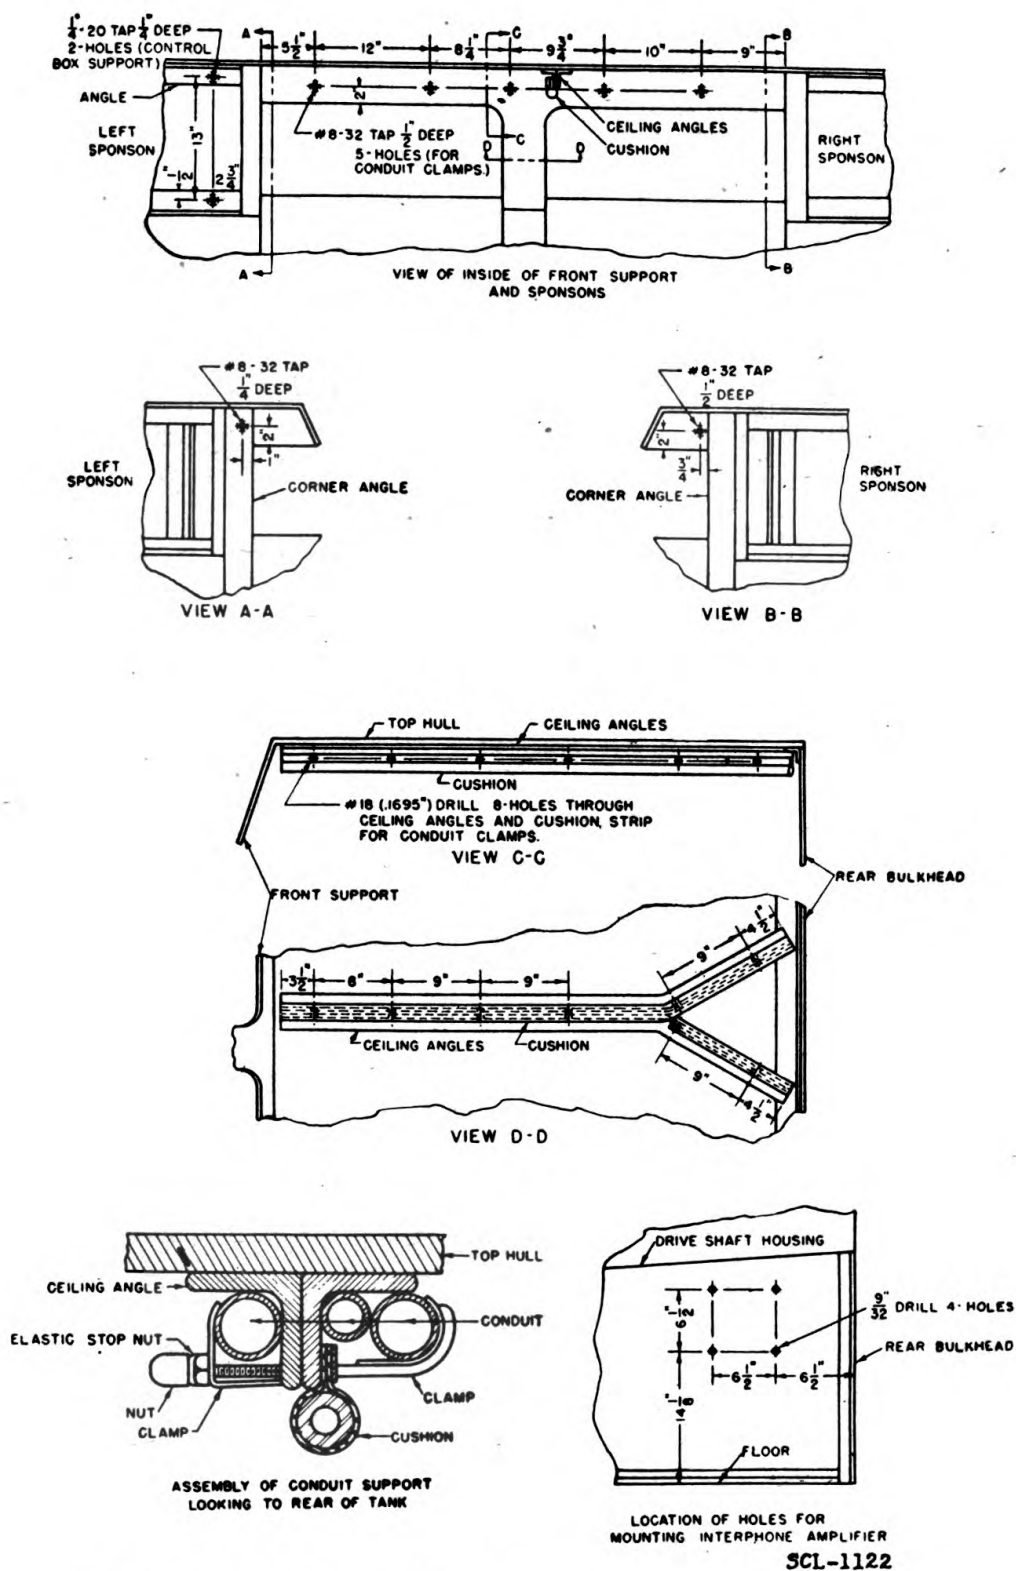

FIGURE 6.—Mounting holes and location for interphone equipment in light tank M2A3.
6. Installation.—*a. Drilling data.*—Light tank M2A3 does not come with all the necessary mounting holes. Figures 6 and 7 give complete drilling details.